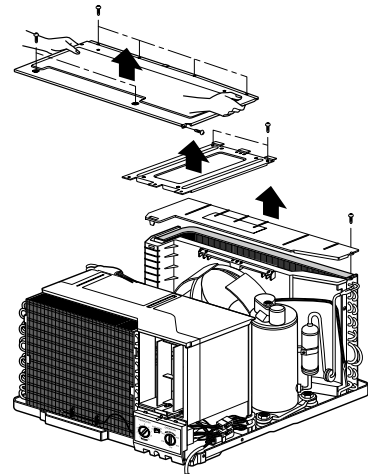

Figure 4
4. Remove the covers and the brace. (See Fig. 4)